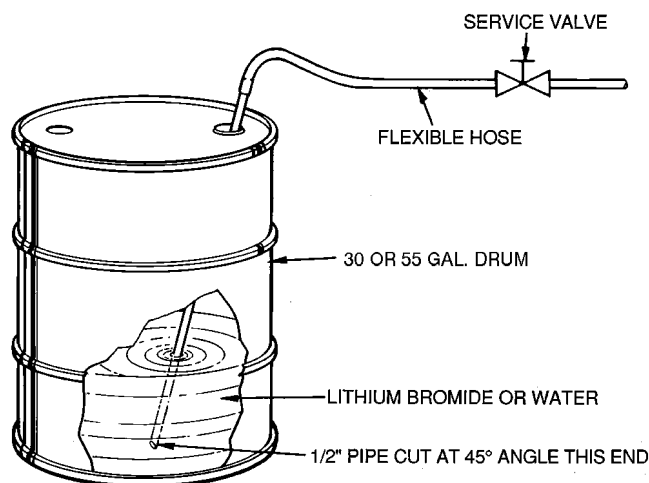

Fig. 29 — Charging Solution and Refrigerant
3. Insert the ½-in. pipe into the container (be sure it goes to the bottom) and connect the flexible hose to the drain valve (valve K), at the bottom of the high-temperature generator (Fig. 29).